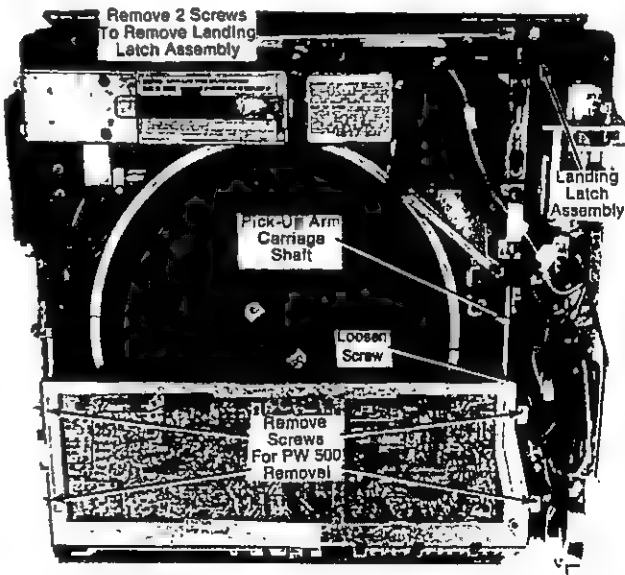

Fig. 2-4. — Pick-up Arm Assembly Removal
- 3. Remove 2 each 1/4" hex head screws and remove landing latch assembly as a complete assembly (Figure 2-4).